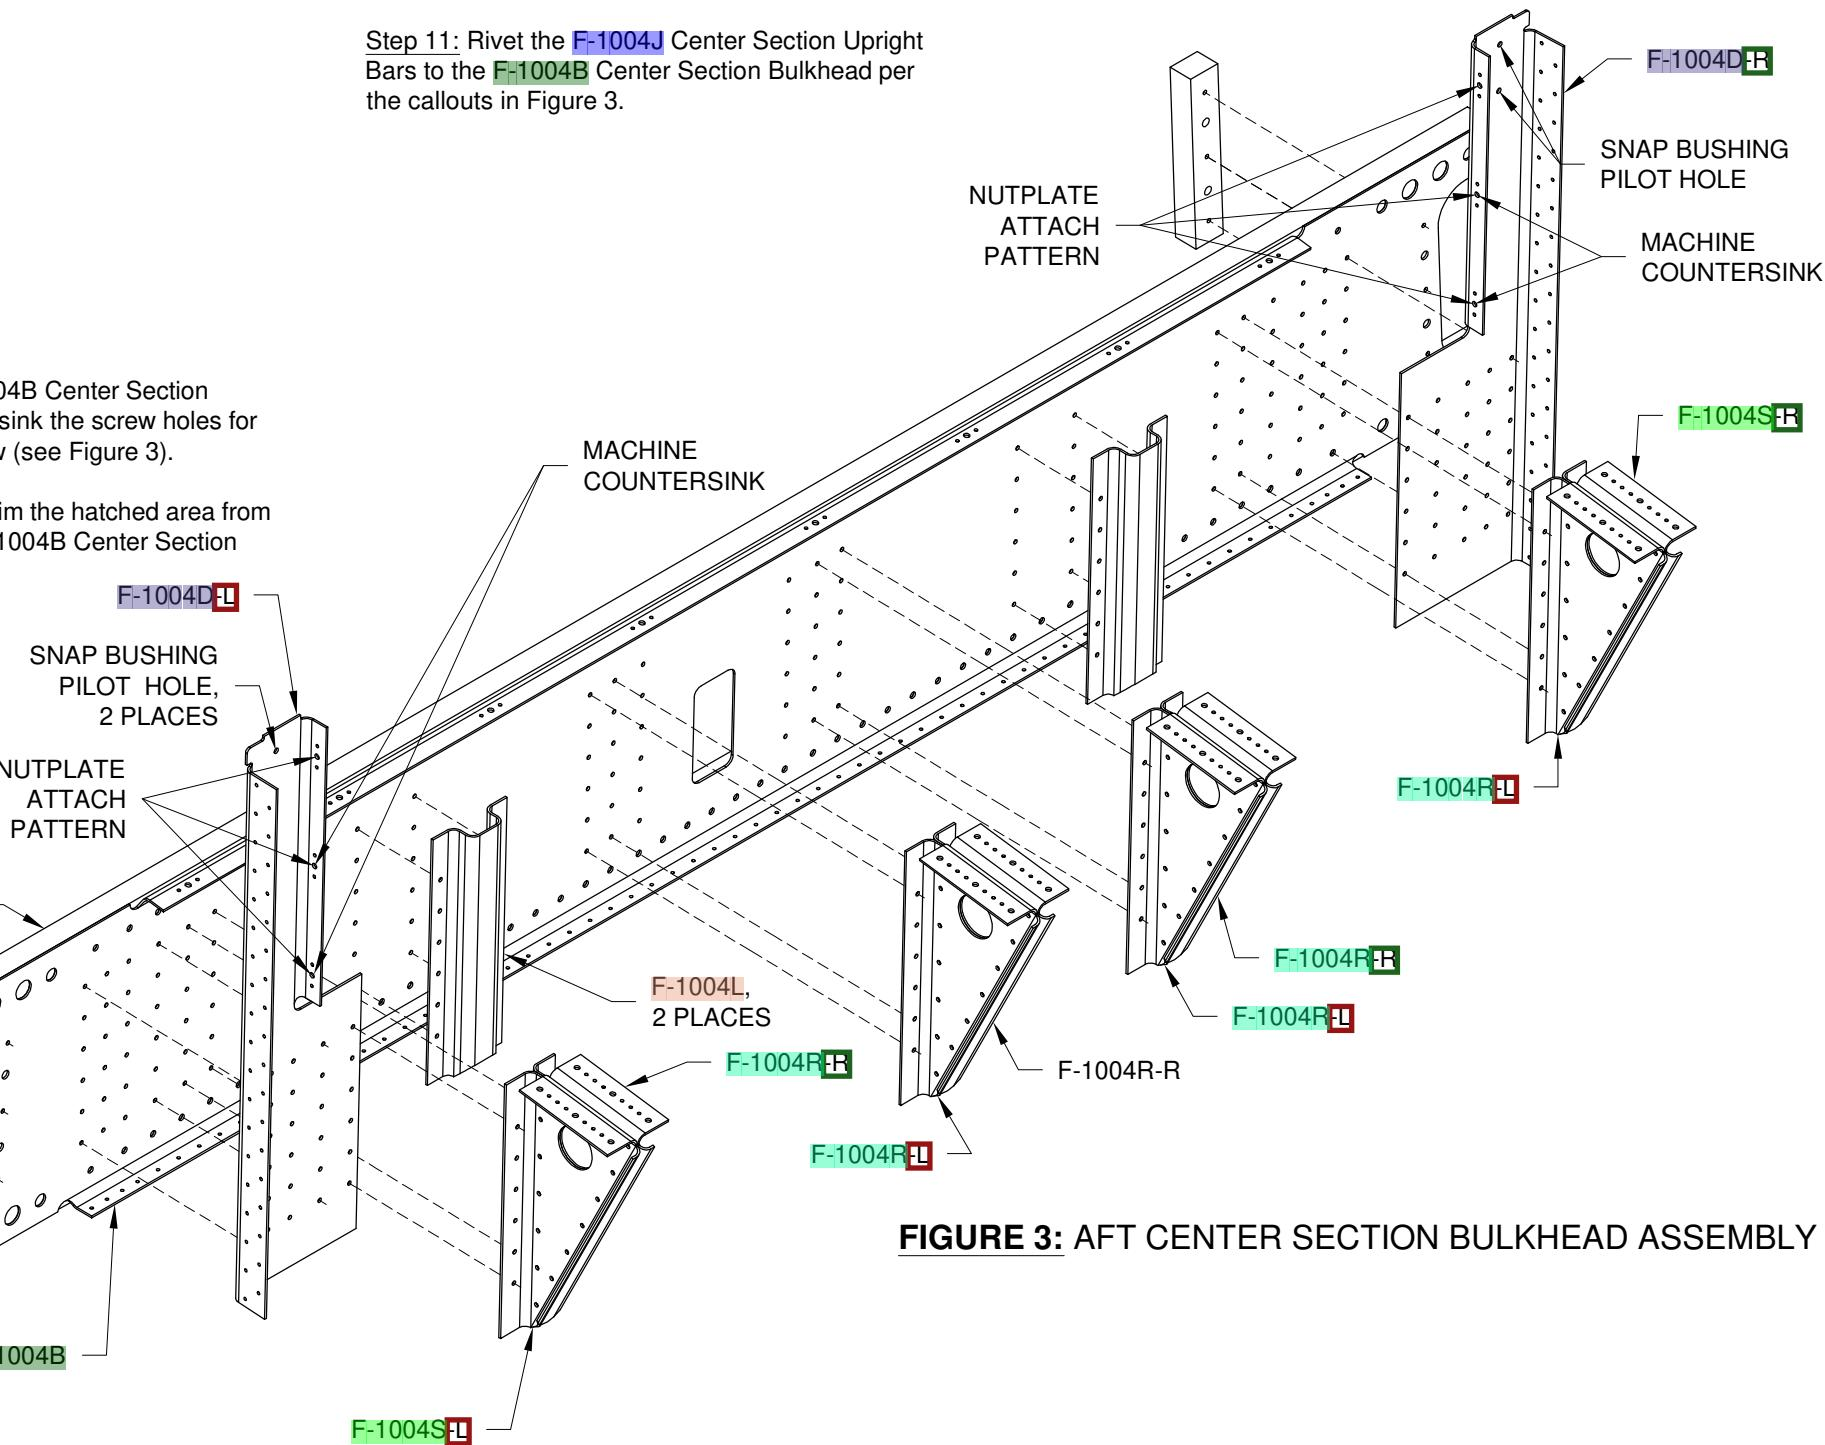

FIGURE 3: AFT CENTER SECTION BULKHEAD ASSEMBLY
Step 8: Disassemble the aft center section bulkhead assembly and deburr all edges. Enlarge the snap bushing pilot holes as indicated in Figure 3 to 3/4 diameter. Machine countersink the all nutplate attach holes for the head of an AN426AD3 rivet. Machine countersink the #30 holes on the forward side of the **F-1004J** Center Section Upright Bars for the head of an AN426AD4 rivet. Prime the center section upright bars. Prime the remaining parts if/as desired.
Step 11: Rivet the **F-1004J** Center Section Upright Bars to the **F-1004B** Center Section Bulkhead per the callouts in Figure 3.
Step 3: Rivet the F-1004D-L and F-1004R Center Section Bulkheads, F-1004L Center Section Hat Stiffeners and Aft Seat Rail Support Subassemblies to the F-1004B Center Section Bulkhead as shown in Page 25-5, Figure 3 and per the callouts in Figure 1.